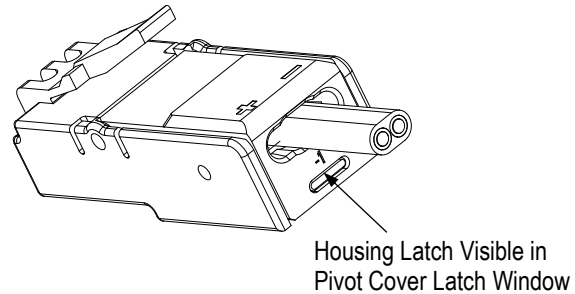

Figure 5
- the housing latch is visible in the pivot cover latch window, ensuring that the pivot cover is fully closed (refer to Figure 5)